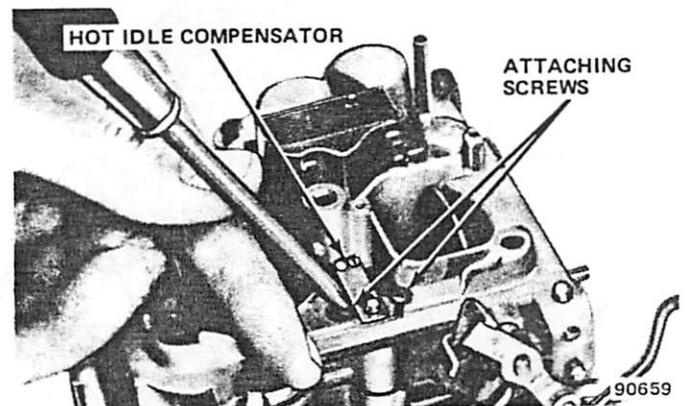

Fig. 1J-30 Model 2SE Carburetor—Idle Compensator Removal
(6) Remove six air horn-to-bowl attaching screws and lockwashers (fig. 1J-31). Remove vent and screen assembly.